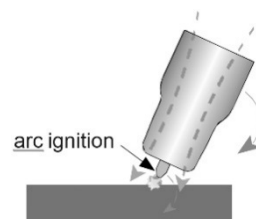

Fig. 53
6. Now rotate the gas cup in the reverse direction to lift the tungsten electrode from the workpiece to create the arc (Fig. 53 and 54).